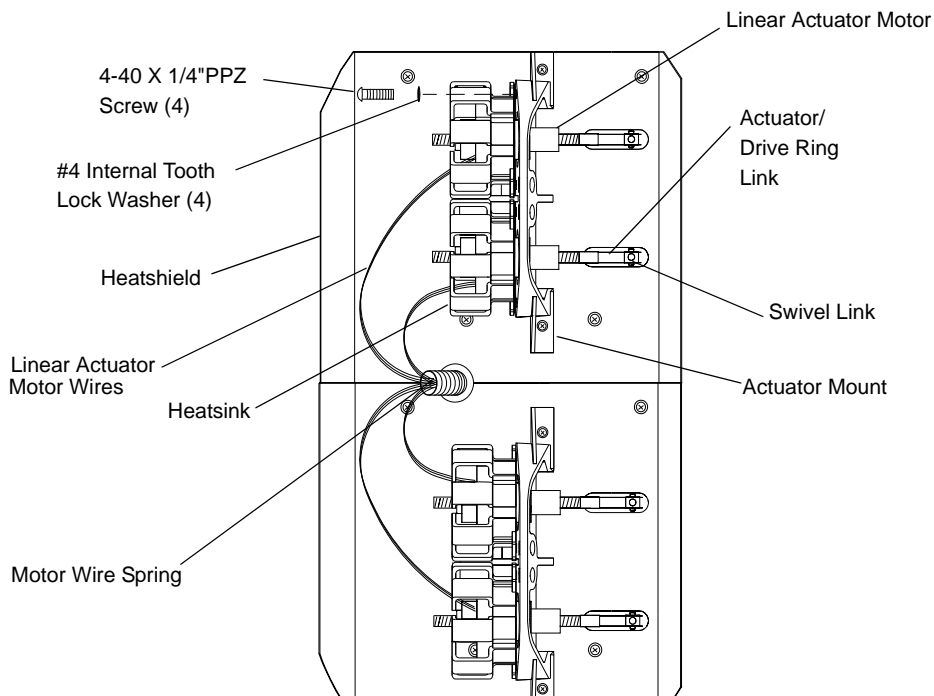

Figure 2-24: Linear Actuator Motor Assembly Removal and Replacement
- Step 6. Using diagonal cutters, remove MTA connector from disconnected motor wires and pull wires through motor wire spring. **Figure 2-24.**